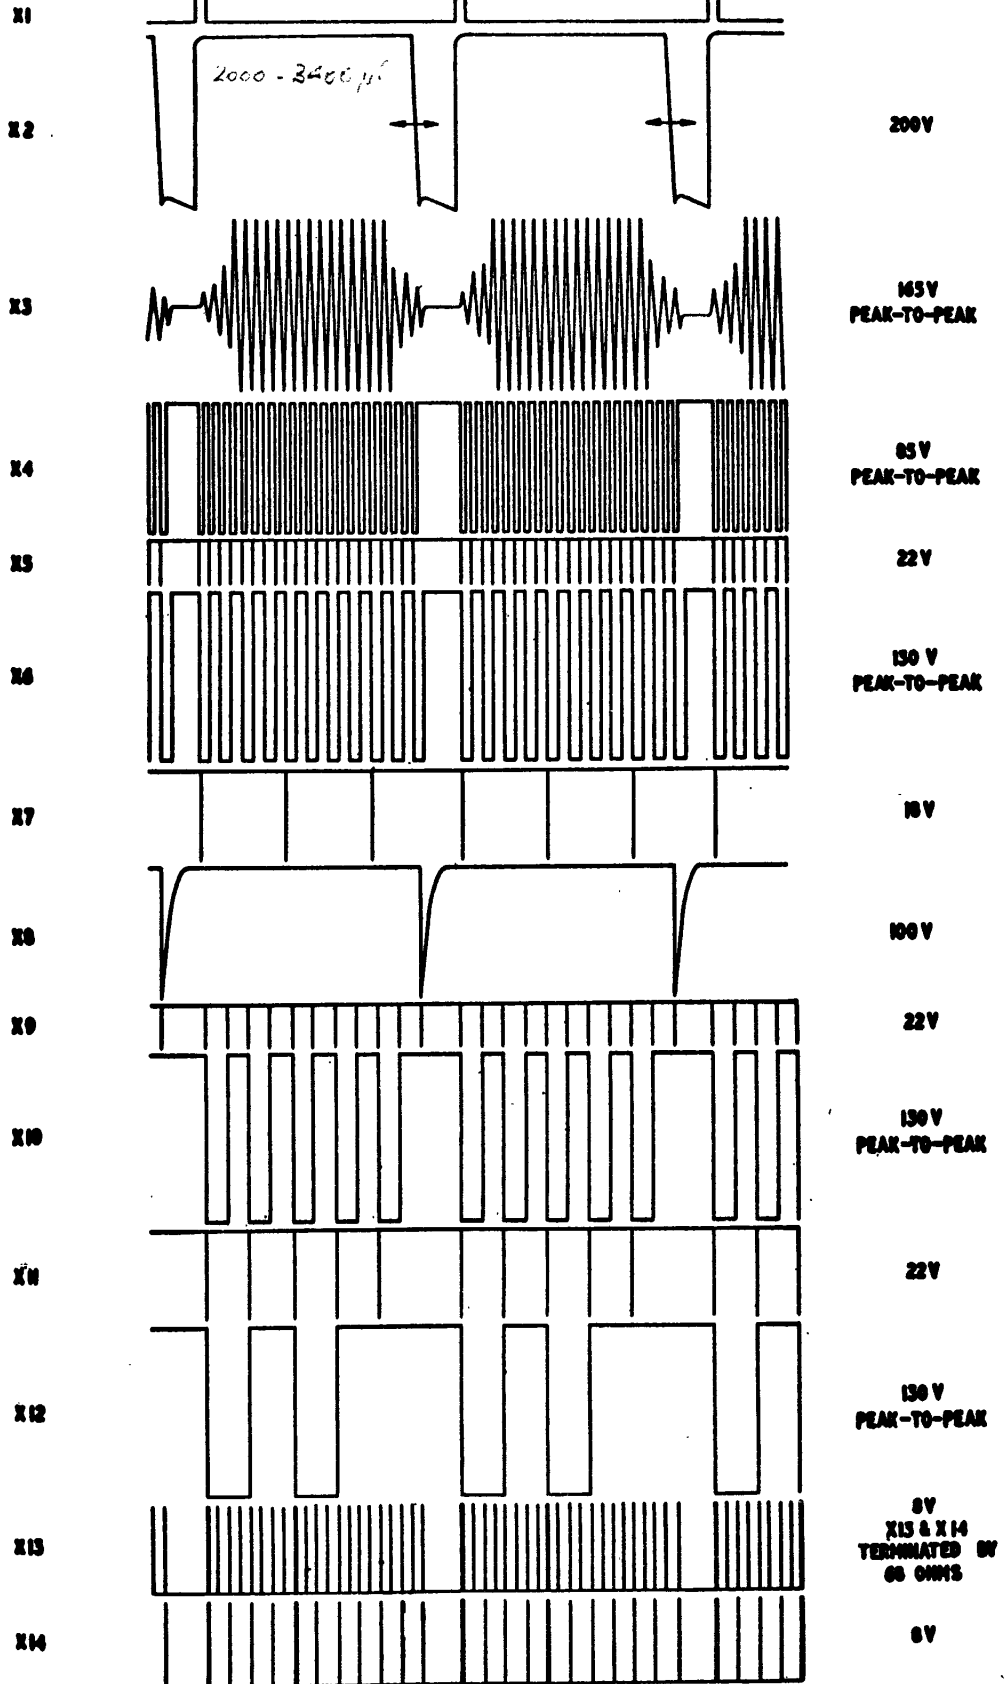

Fig. 5. Marker unit (range) type 27, waveforms
18. These oscillations, which are approximately 165 volts in amplitude (fig. 5), are passed via C15 to the grid of V6. This valve is a conventional squaring valve Type CV1091 specially designed to generate a very rapid fall on the negative-going edge of the output waveform. The valve is biased to cut-off by virtue of a fixed negative voltage applied to its control grid. The first cycle, and each successive positive cycle, of the input sine wave rapidly takes the control grid through the grid base to zero bias, where grid current prevents any further change in grid voltage during the